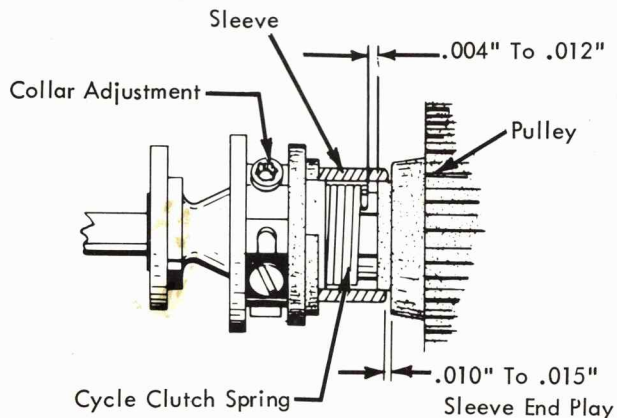

FIGURE 42. Lateral Position of the Cycle Clutch Spring and Collar
- a. Lateral position of the spring - Loosen the collar and position the spring left or right on its hubs so that the right hand end of the spring will clear the face of the cycle clutch pulley by .004" to .012" (Fig. 42).